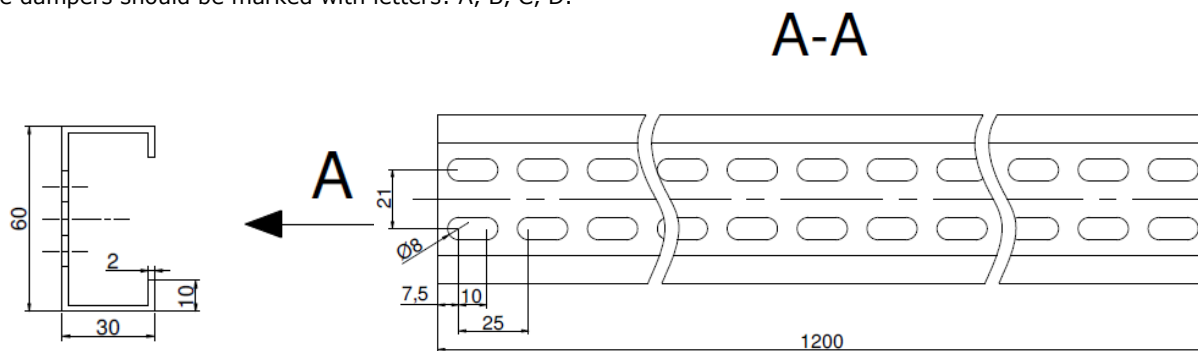

Figure 12. Connection strip
Arrangement 2 - vertical battery consisting of three fire dampers KWP (Figure 12)
- Fix the gasket on insulating spacer of one of adjoining fire dampers (position (1) in the Figure 12).